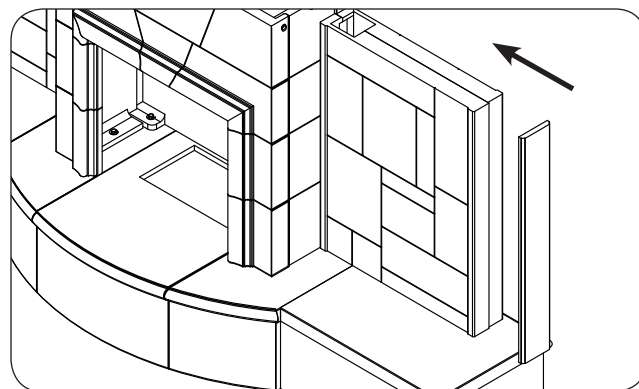

Fig. 20-3 Assemble end side-wall (skip if n/a)
4. Place the end side-wall piece against the front and rear side-walls as shown in Fig. 20-3 (no hardware required).